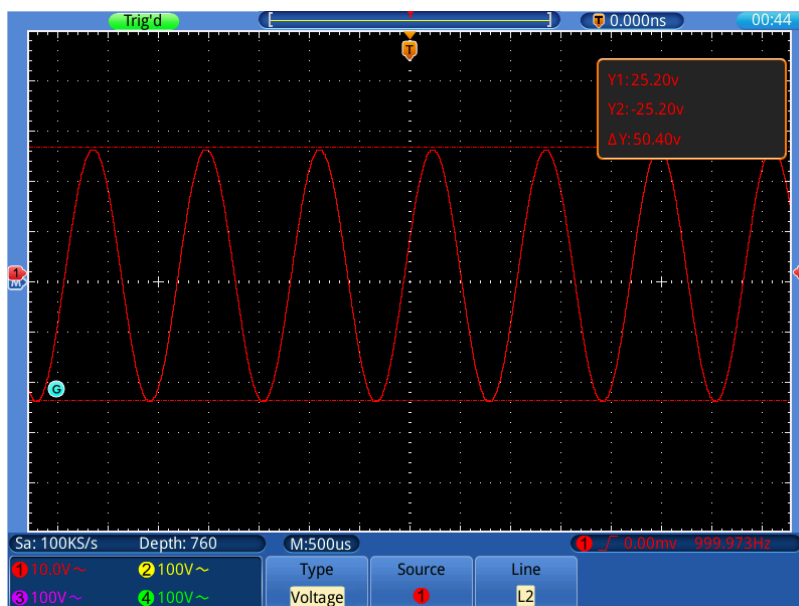

Figure 5-10 Waveform of Voltage Cursor Measurement
2. Select **Source** in the bottom menu; select ① in the left menu.
4. Select **Line** in the bottom menu; select **L1** in the right menu. The **G** icon will appear beside the dotted line of L1, represents you can turn the **G** knob to adjust the position of L1. Select **L2** to adjust the position of L2. Select **L1&L2** to adjust the two cursors together. The cursor measure window at the top right shows the present position of two cursors and the absolute value of voltage difference (see *Figure 5-10*).